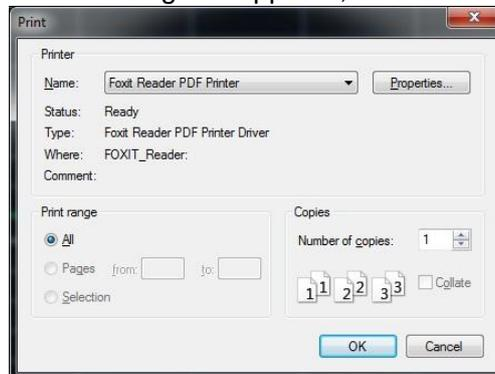

Fig. 3.21 Print dialog box
Step 1. Press the **【Print】** key. "Print" dialog box appears, as shown in Fig. 3.21.